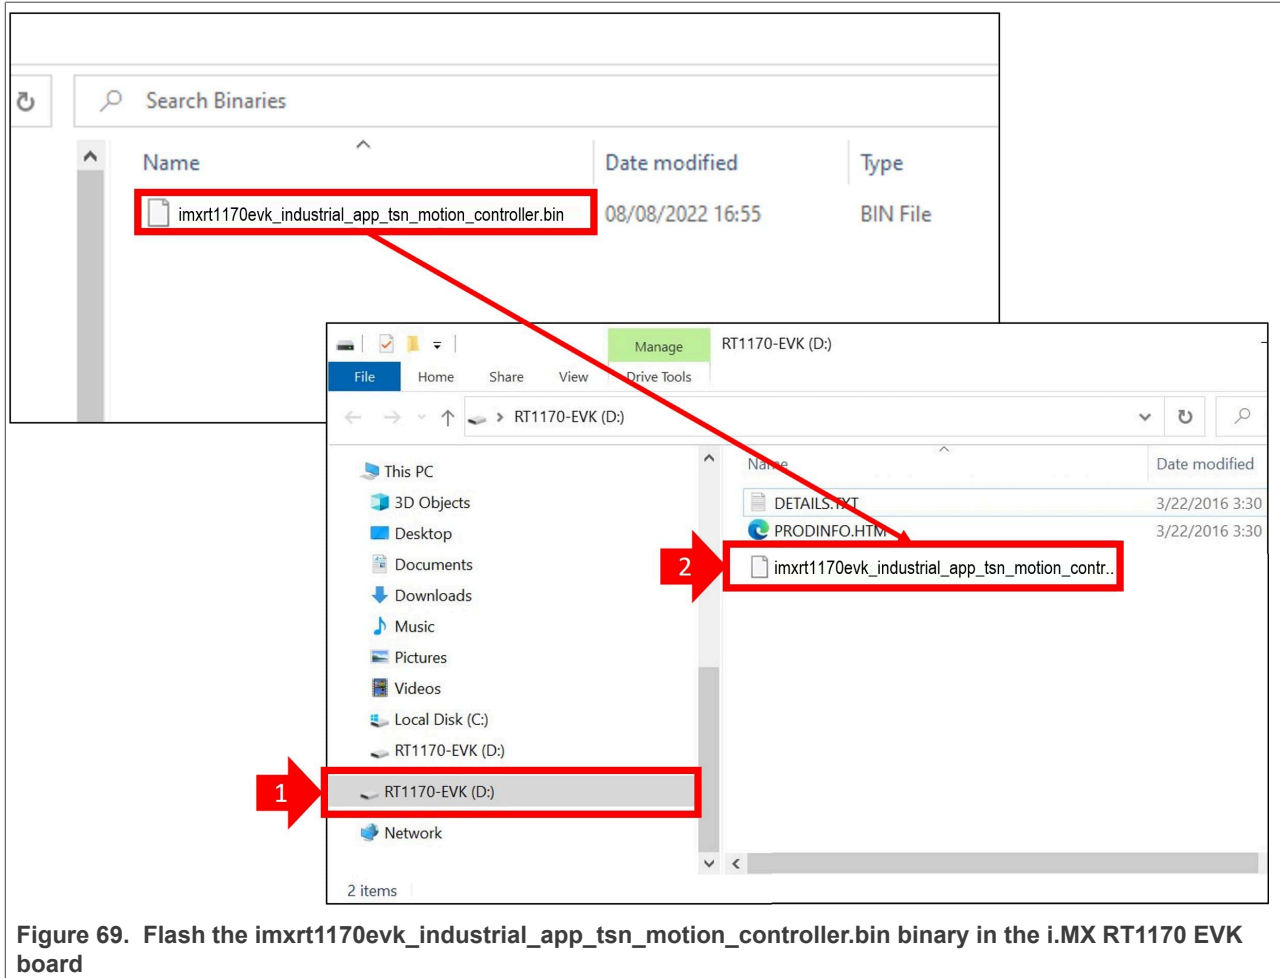

Figure 69. Flash the `imxrt1170evk_industrial_app_tsn_motion_controller.bin` binary in the i.MX RT1170 EVK board
2. Flash the *imxrt1170evk\_industrial\_app\_tsn\_motion\_controller.bin* file containing the demo application in the i.MX RT1170 EVK board using the DAP-Link interface of the board as shown in Figure 69. The binary file for i.MX RT1170 EVK is delivered with the i.MX RT Industrial Drive Development Platform software package. It can be found in the *tools/* folder.